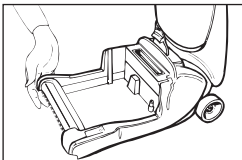

Fig.6./6
7. Replace the dirty water tank by hooking the front of the dirty water tank into the base of the cleaner, making sure the the front of the dirty water tank is resting on the base. The dirty water tank has two (2) tabs on the underside which **MUST** latch on to the underside of the base of the cleaner. Failure to install the dirty water tank correctly will result in poor dirt water pick up (Fig.6/7).